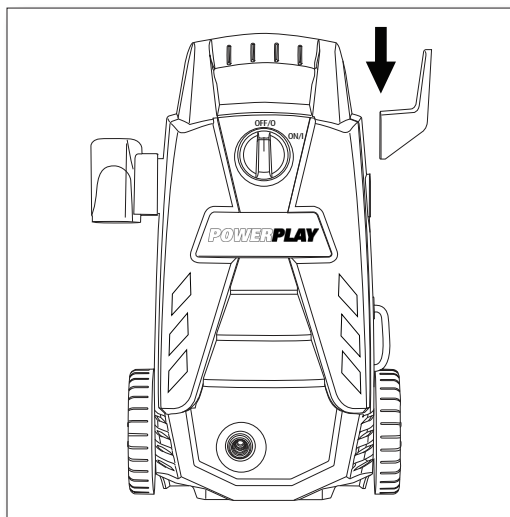

Fig. 3
- Slide cord hook holder onto the right side of the washer when facing it. This does not require any screws. (**Fig. 3**)